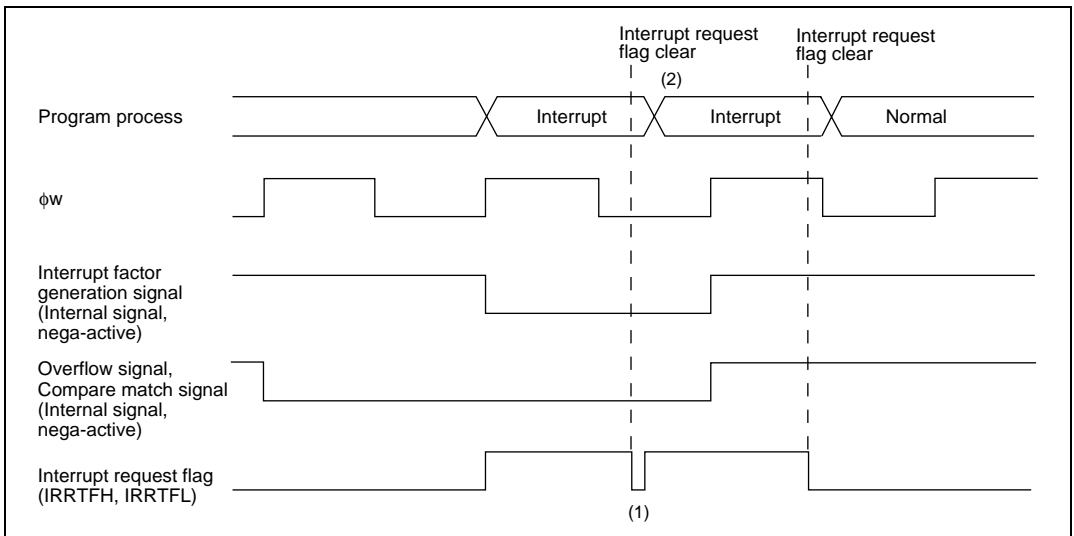

Figure 9.7 Clear Interrupt Request Flag when Interrupt Factor Generation Signal is Valid
When $\phi_w/4$ is selected as the internal clock, “Interrupt factor generation signal” will be operated with ϕ_w and the signal will be outputted with ϕ_w width. And, “Overflow signal” and “Compare match signal” are controlled with 2 cycles of ϕ_w signals. Those signals are outputted with 2 cycles width of ϕ_w (figure 9.7)
In active (high-speed, medium-speed) mode, even if you cleared interrupt request flag during the term of validity of “Interrupt factor generation signal”, same interrupt request flag is set. (figure 9.7 (1)) And, you cannot be cleared timer overflow flag and compare match flag during the term of validity of “Overflow signal” and “Compare match signal”.
For interrupt request flag is set right after interrupt request is cleared, interrupt process to one time timer FH, timer FL interrupt might be repeated. (figure 9.7 (2)) Therefore, to definitely clear interrupt request flag in active (high-speed, medium-speed) mode, clear should be processed after the time that calculated with below (1) formula. And, to definitely clear timer overflow flag and compare match flag, clear should be processed after read timer control status register F (TCSR F) after the time that calculated with below (1) formula. For ST of (1) formula, please substitute the longest number of execution states in used instruction. (10 states of RTE instruction when MULXU, DIVXU instruction is not used, 14 states when MULXU, DIVXU instruction is used) In subactive mode, there are not limitation for interrupt request flag, timer overflow flag, and compare match flag clear.